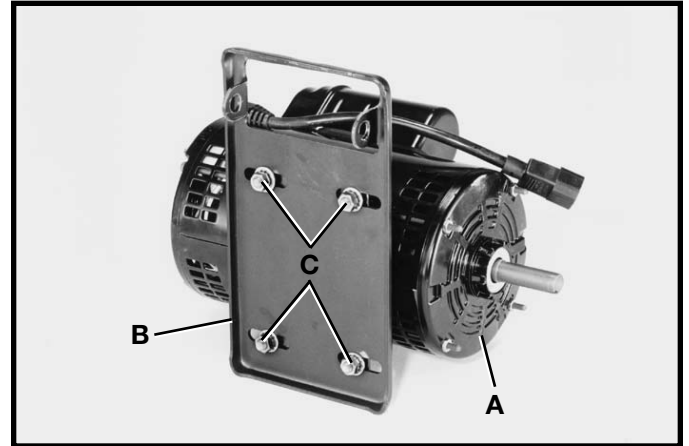

Fig. 15
1. Assemble the motor (A) to the motor mounting plate (B) as shown in Fig. 15, using four carriage bolts, flat washers, star washers, and hex nuts (C).